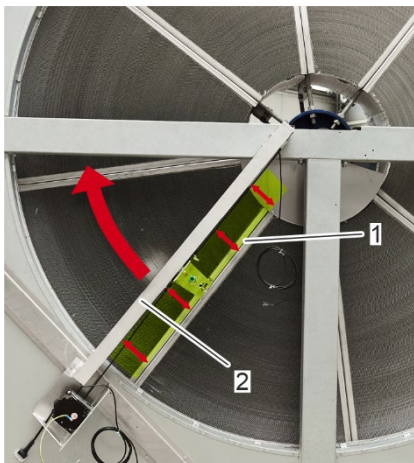

Fig. 49: Align rotor
1. Turn the rotor by hand and align the inside of two adjacent rotor segments (Fig. 49/1) parallel to the cleaning rail (Fig. 49/2).